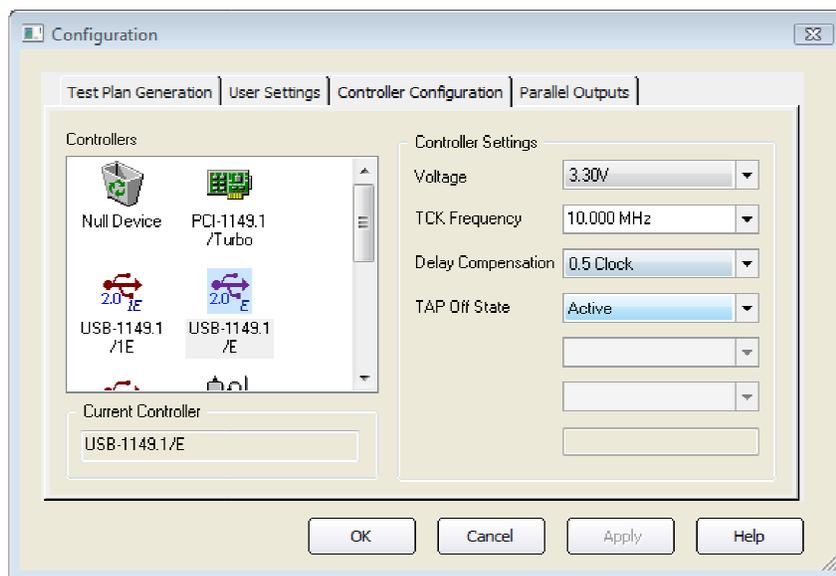

Figure 2-4. USB-1149.1/E Controller Configuration Screen in ScanExpress Runner
- After you have made your selections, click on the **Apply** button to save the settings. Figure 2-4 shows the ScanExpress Runner controller settings screen after the USB-1149.1/E is selected using a 10 MHz TCK frequency and 0.5 Clock delay compensation.